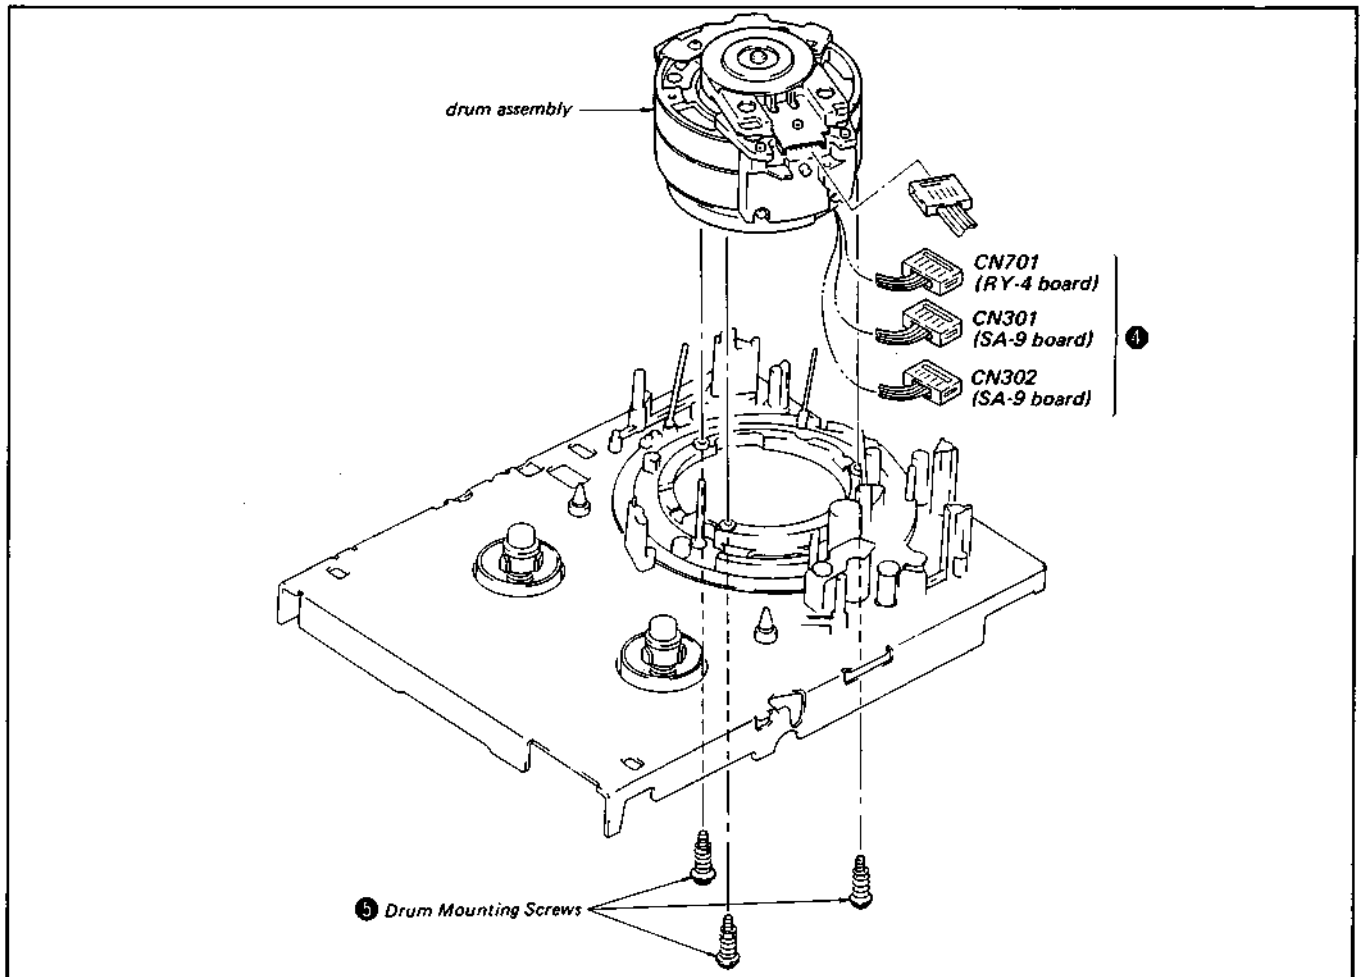

Fig. 3-14 Removal of the drum assembly
- ④ Remove the 3 connectors from the rear of the chassis as shown in Fig. 3-14.
- ⑤ Remove the 3 drum mounting screws from the rear of the chassis, then remove the main body of the drum assembly. After the replacement has been completed, adjust the drum path.